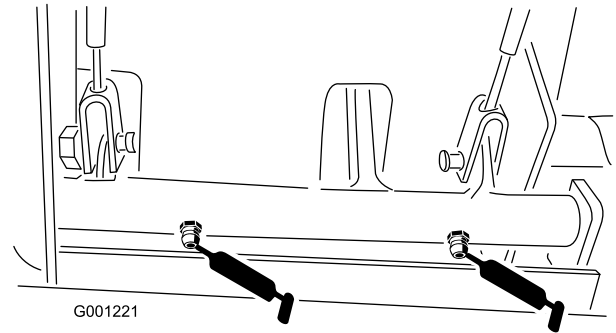

Figure 32
- Brake pivot bushings (Figure 32)